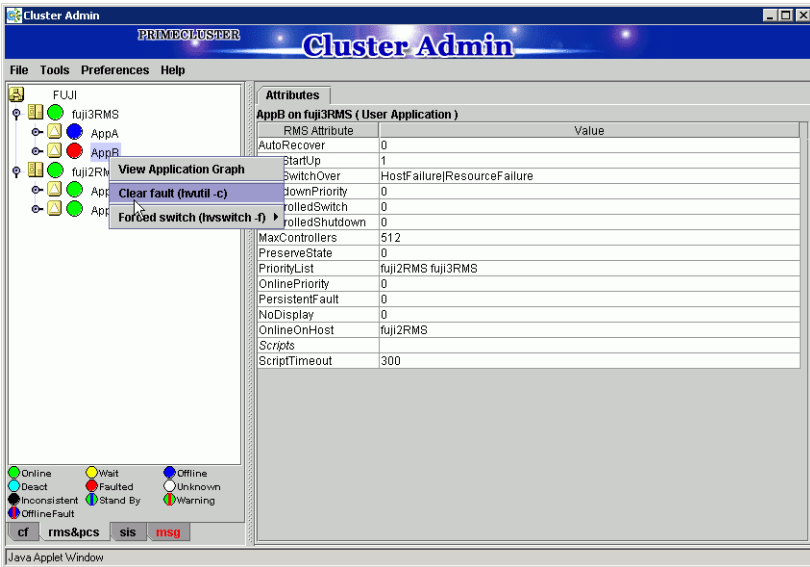

Figure 109: Clearing an application fault
- ▶ Right-click on the application object and select the *Clear Fault* pop-up menu option (Figure 109).